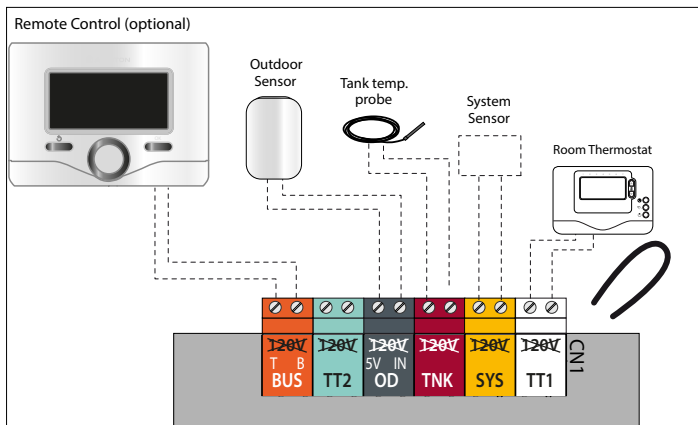

Figure 50 - Low Voltage Wiring Connections
- Connect the room thermostat wires to the terminals indicated in Table 18 and Figure 50.